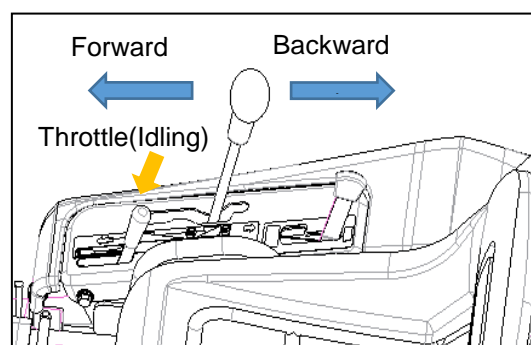

Figure 15
- **Tilt the change lever by half to FORWARD and BACKWARD for 10 seconds and then, return the change lever to neutral position.(Figure 15)**
When tilt the change lever, throttle must be kept idling. (Figure 15)